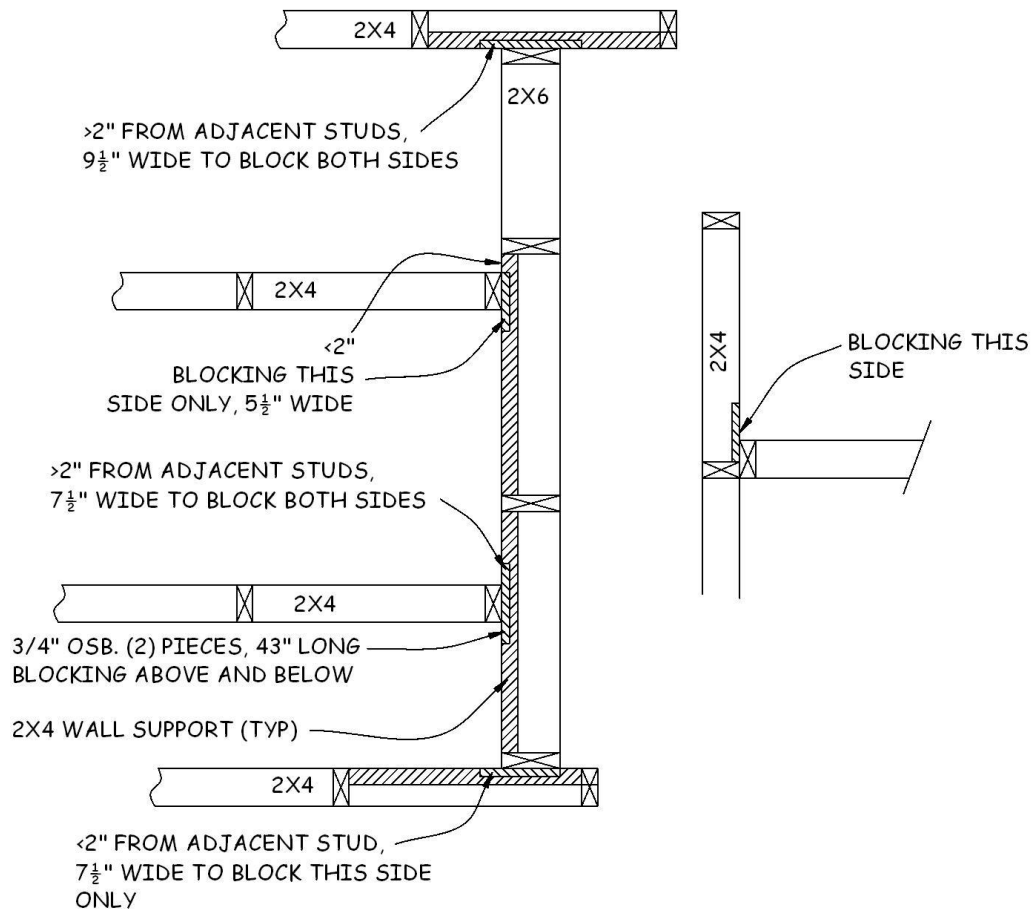

Figure 10-4. Blocking For Wall Rock.
4. Install two 43" long pieces of $\frac{3}{4}$ " OSB blocking at the ends of any interior walls that intersect an exterior wall – one above the 2x4 ladder block and one below the 2x4 ladder block. The blocking must extend at least 2" beyond the edges of the stud, so cut the OSB to a width of $5\frac{1}{2}$ " or $7\frac{1}{2}$ " for a 2x4 wall and $7\frac{1}{2}$ " or $9\frac{1}{2}$ " for a 2x6 wall. Pre-drill four pairs of $\frac{3}{16}$ " holes, spaced evenly vertically, through the stud (about $\frac{1}{2}$ "- $\frac{3}{4}$ " in from each edge). To attach the blocking, hold the piece of OSB in place, making sure it is tight (no gaps) to the outside of the end stud (use a clamp, if necessary). Attach the OSB blocking by screwing $2\frac{1}{2}$ " screws through the holes in the 2x4 into the OSB, turning the screw until it is buried about $\frac{1}{4}$ " into the stud. If there is access to drive screws from the blocking side of stud, it is acceptable to use two layers of $\frac{1}{2}$ " OSB. See Figure 10-4.
5. Where an interior wall intersects an interior wall (See Figure 10-4), install blocking using 2x4's, $\frac{3}{4}$ " OSB, or two layers of $\frac{1}{2}$ " OSB. Secure the blocking to the end stud using 16d nails for 2x4 blocking and $2\frac{1}{2}$ " screws for OSB blocking.